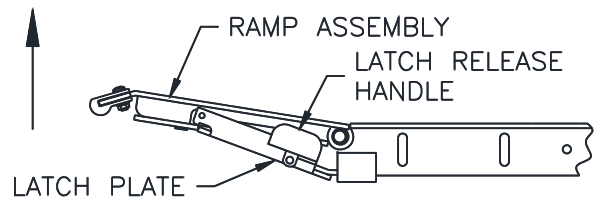

**Fig. 13 MOVING THE SAW-TOOTHED
14. Slightly loosen the four (4) Flat-Head Screws securing the Movable Saw Tooth Adjustment Bar, Fig. 13. Tap on either end of the Adjustment Bar with a hammer to change the pitch of the Ramp. Once the Ramp is adjusted flat with the Platform as indicated by the Straight-Edge, Fig. 12, retighten the Flat Head Screws to lock the Adjustment bar into position.